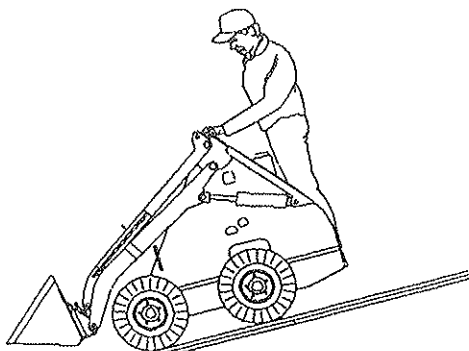
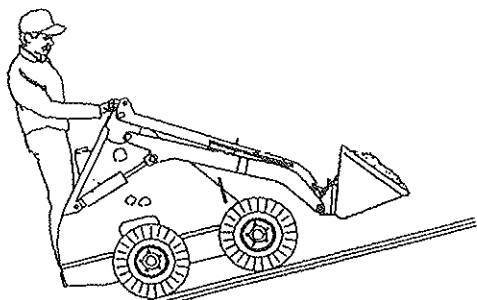

FIGURE 10 - EMPTY BUCKET
FIGURE 11 - FULL BUCKET
5. When driving on slopes keep the heaviest end of the loader upward. When driving on a slope with an empty bucket, back up the slope in reverse, and drive down a slope forward as in **Figure 10**. When driving on a slope with a load, drive up the slope forward and back down the slope in reverse as in **Figure 11**.